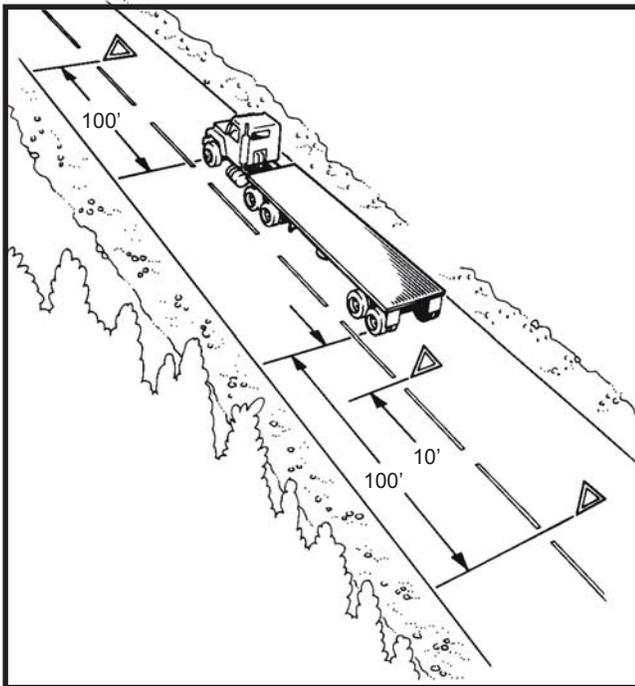

Figure 2-6 Warning Device Placement:
- Back beyond any hill, curve, or other obstruction that prevents other drivers from seeing the vehicle within 500 feet. (See Figure 2-6.)